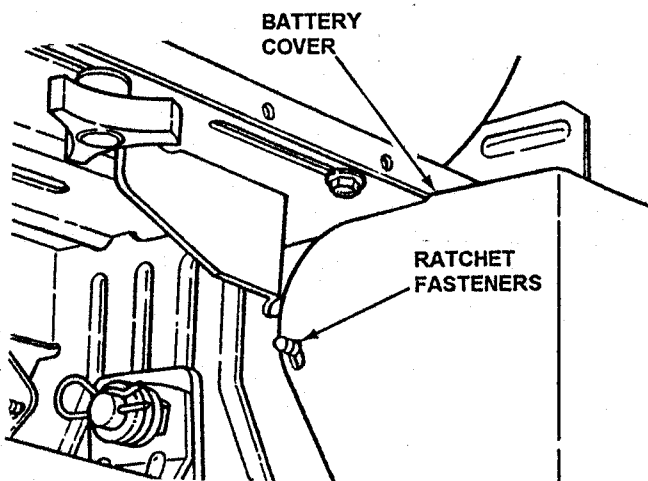

FIGURE 4.25
1. Carefully pull each side of battery cover away from ratchet fasteners and remove cover. See Figure 4.25.
3. Reinstall battery cover. See Figure 4.25.